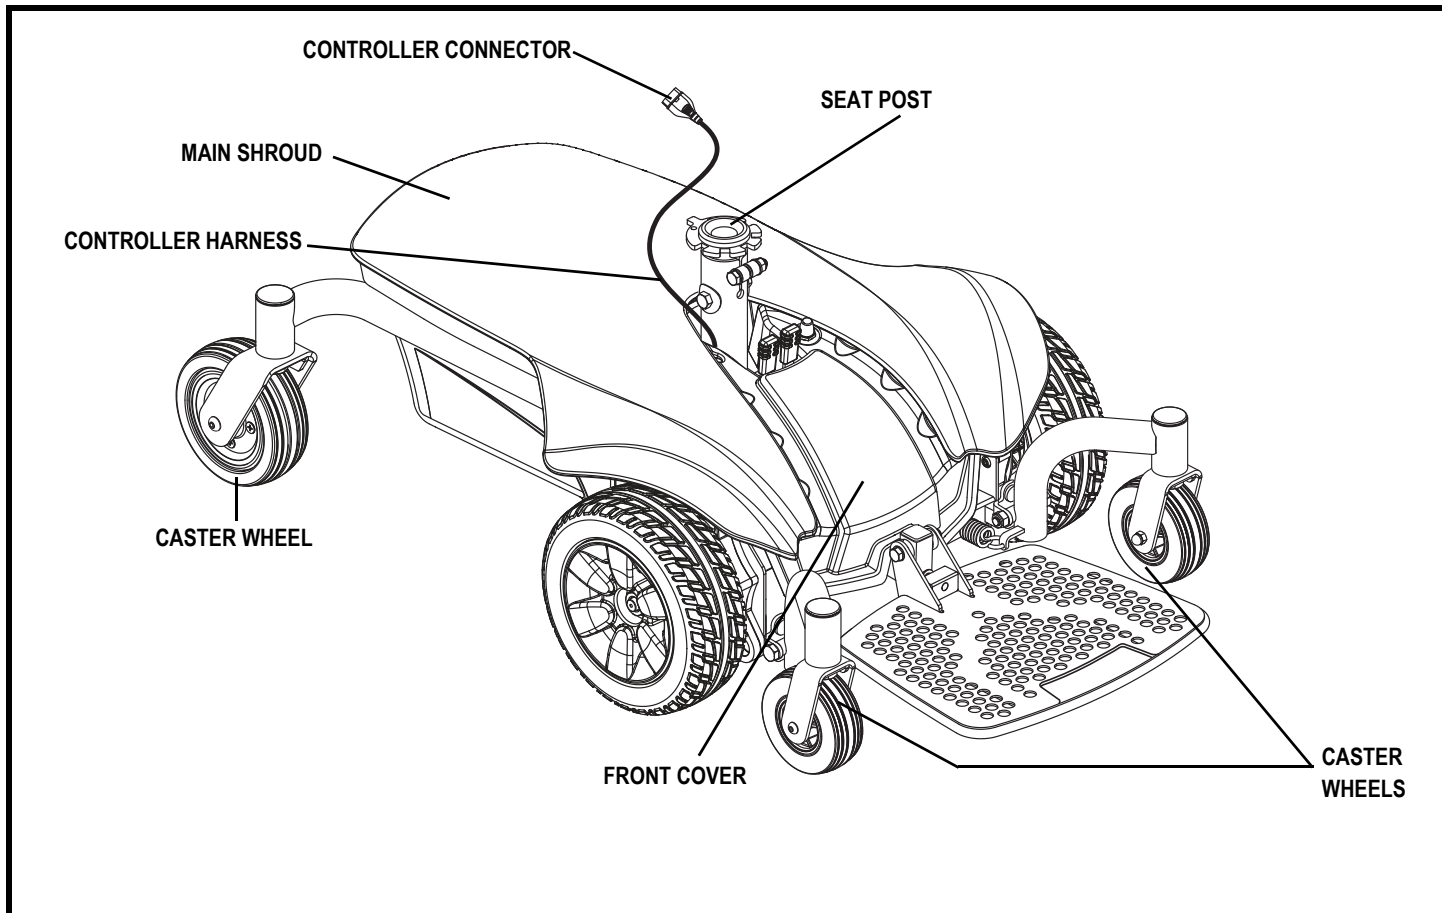

Figure 2. The Jazzy Sport Power Base
5. Plug the controller harness into the connector on the power base. **See figure 2.**